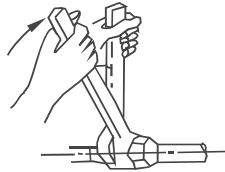

Fig.8-4
- Be sure to use both a spanner and torque wrench together when connecting or disconnecting pipes to/from the unit. (Fig.8-4)